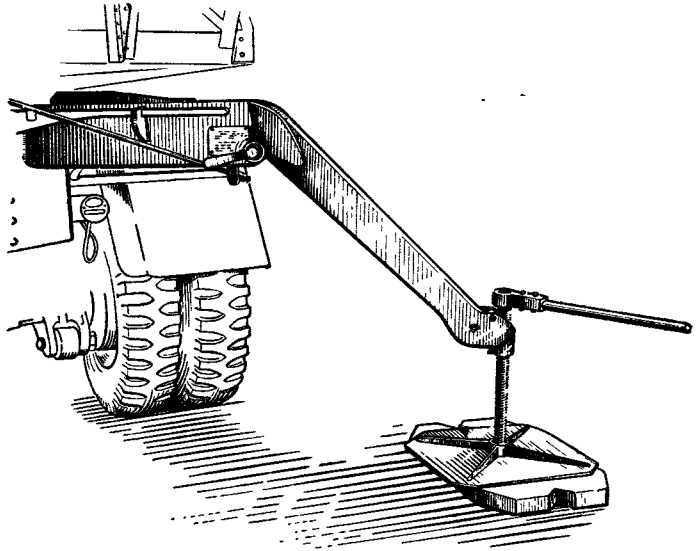

Fig. 22. Jacking with board in position
28. Fig. 21 shows the sequence of operations and fig. 22 shows the jack arm and jacking board in position. Proceed as follows:—